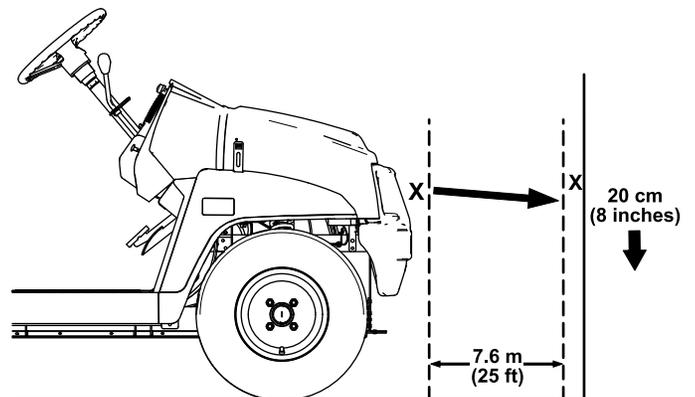

Figure 51
1. Park the machine on a level surface with the headlights approximately 7.6 m (25 ft) from a wall (Figure 51).
The brightest part of the headlight beam should be 20 cm (8 inches) below the mark placed on the wall (Figure 51).